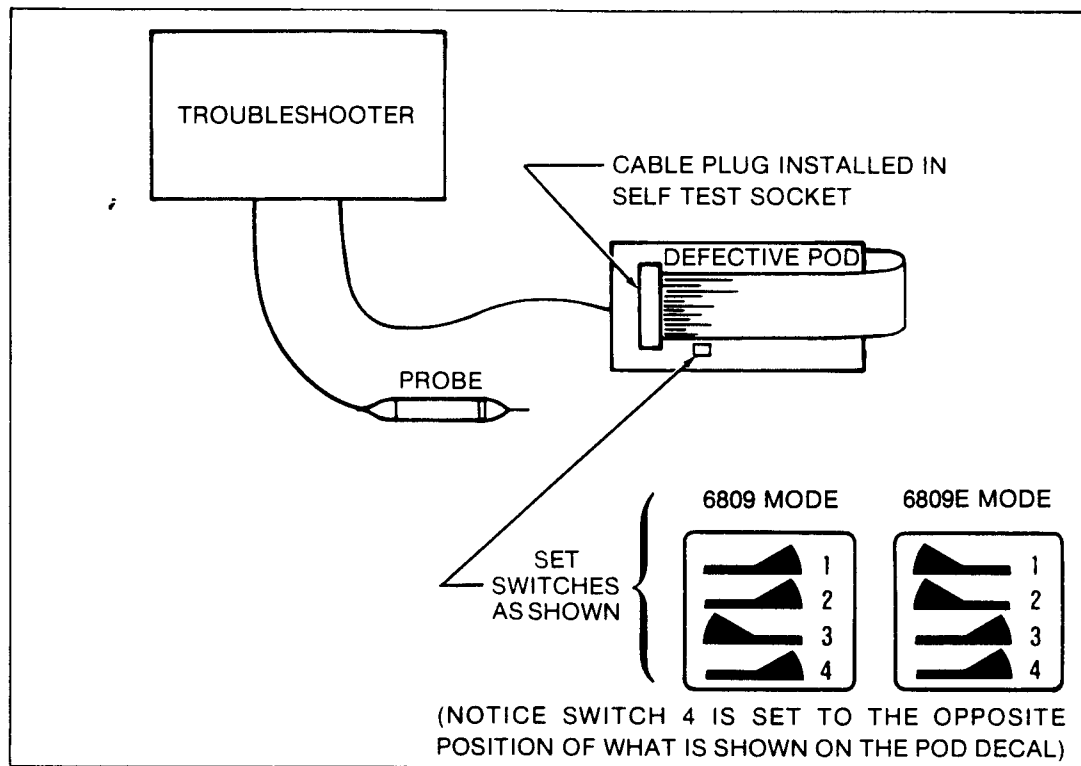

Figure 6-1. Troubleshooting a Defective Pod
3. Connect the pod to the troubleshooter, and insert the ribbon cable plug into the self test socket as shown in Figure 6-1. Lock the self test socket by turning the lock screw at the end of the socket clockwise.
4. Set the pod switches beside the self test socket to the positions shown in Figure 6-1. Note that the position of switch 4 that is shown in Figure 6-1 is opposite to what is shown on the pod decal beside the switches.
When the pod and the troubleshooter are connected in this configuration (with switch 4 in the position indicated in Figure 6-1), the tests and troubleshooting functions of the troubleshooter can be applied to the pod, much like any other UUT. For example, you
Consider the first example in the preceding section where the pod detected that data bit 4 had the incorrect value during the execution of test routine 8. To troubleshoot this pod, first make sure you have followed the steps listed in the previous section titled Preparation for Troubleshooting a Defective Pod (which includes disabling the pod enable lines and setting switch 4 in the correct position for troubleshooting as shown in Figure 6-1). Then press the following sequence of keystrokes to recreate test routine 8 (as described in Table 6-2):